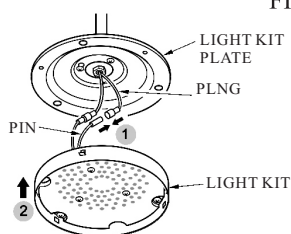

FIG. 15
4. Connect the light wire with plug between light kit and fan. (see Fig. 15)